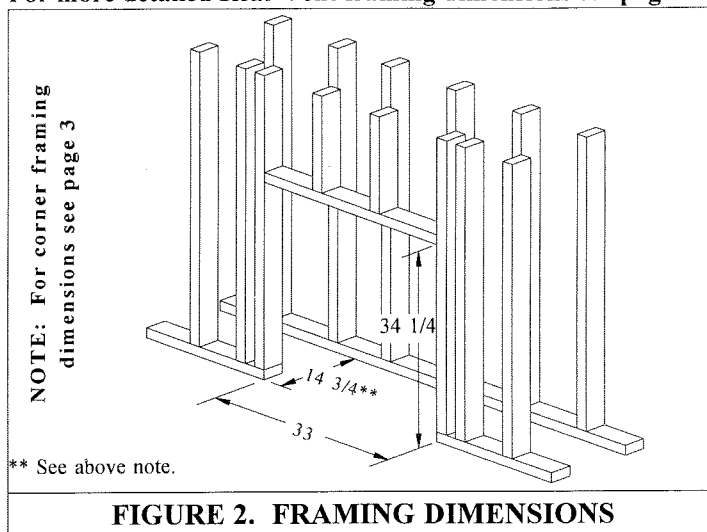

FIGURE 2. FRAMING DIMENSIONS
***An additional 1" has been added to the depth of the appliance for framing. This will allow for extra materials used in outside wall installations. (See Figure 2)*